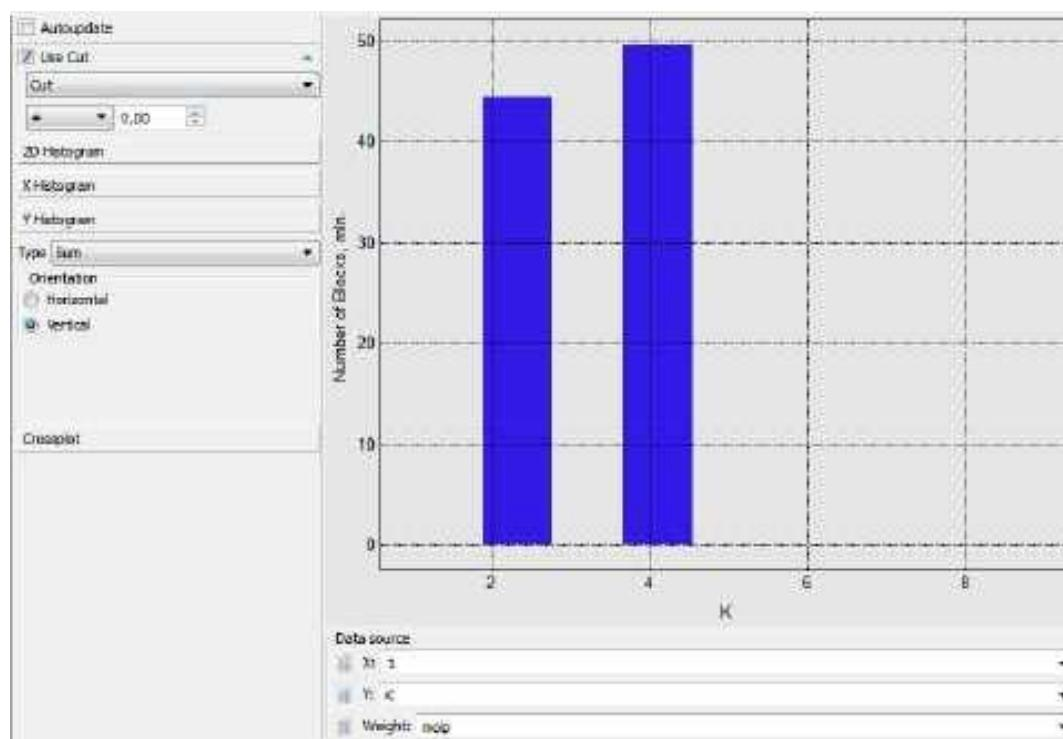

Figure 170. moip in layers 2 and 4.
2. In the Y-histogram, check **Use Cut**. The histogram will display the moip of layers 2 and 4 only – see figure 170